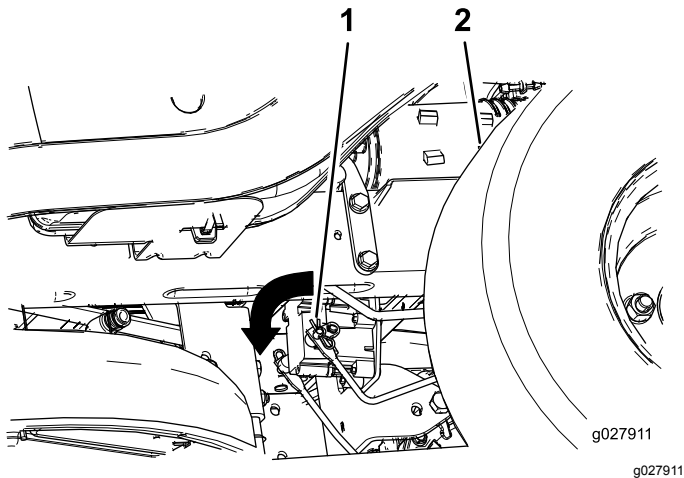

Figure 56
3. Locate the shaft on the electric brake where the brake link arms are connected (Figure 56).